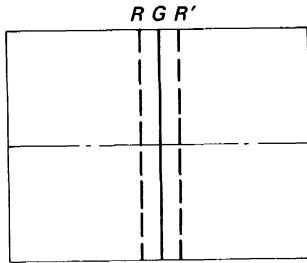
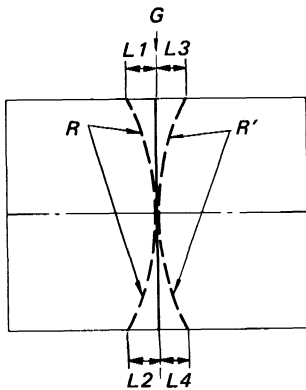

Fig. 3-46
Fig. 3-47
- (1) Set the HATCH switch to TEST.
- (2) Adjust RV5508 (H SKEW (R)) so that the red vertical center line is parallel with the green vertical center line (Fig. 3-46) or "L1" ("L3") is equal to "L2" ("L4") (Fig. 3-47).